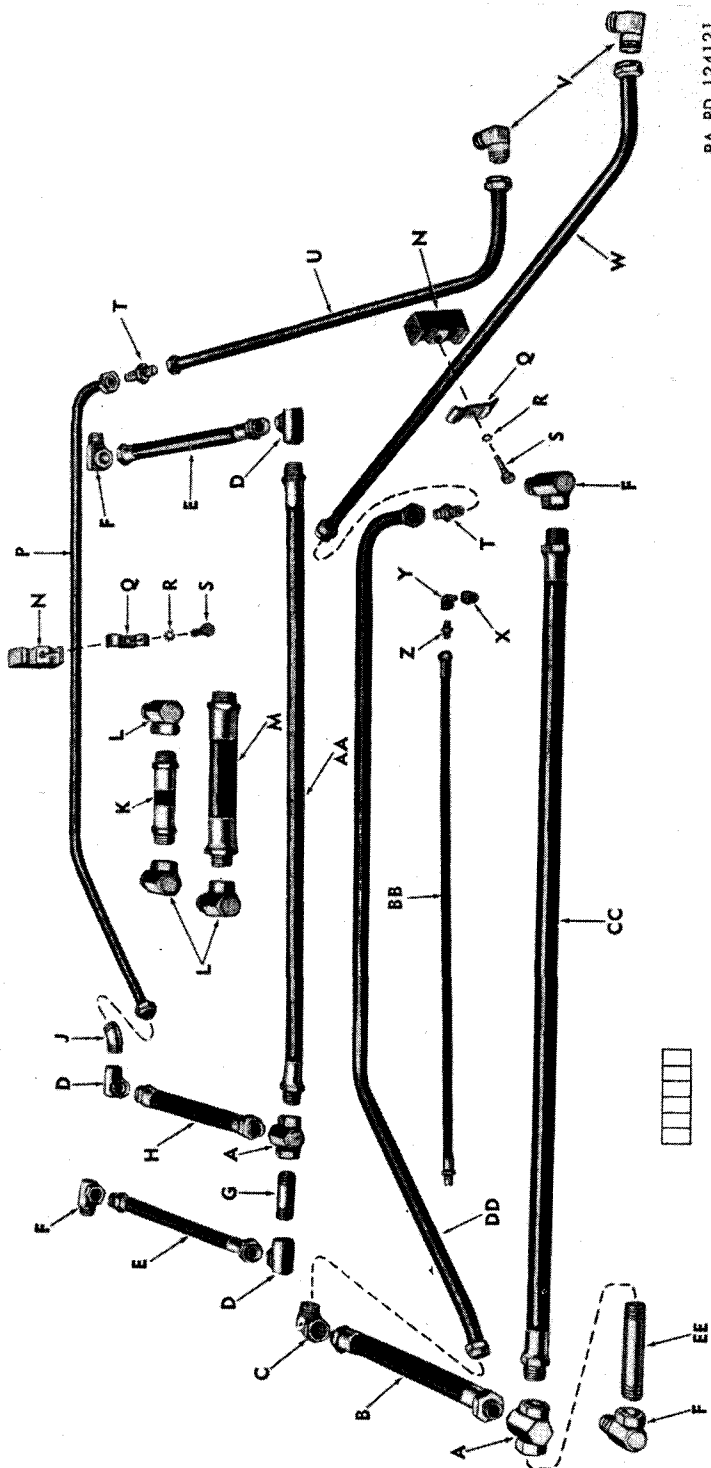

Figure 52. Arrangement of hydraulic lines and fittings.
- (1) Install the hydraulic-cylinder-upper-end rubber hose (fig. 13), and the elbow adapter union in the hydraulic cylinder by turning the union into the threaded bore near the top of the cylinder. Position the union so that the hose points straight toward the bottom of the cylinder. Install the elbow adapter union (fig. 52) in the threaded bore at the bottom of the cylinder. Position the union to point toward the center line of the vehicle when the cylinder is installed.
- (5) Connect the hydraulic-cylinder-upper-end rubber hose to the upper-end-right-hydraulic-cylinder-to-upper-end-left hydraulic-cylinder rubber hose (fig. 13), making the connection at the elbow adapter union which connects these two hoses (fig. 52).
Note. The right-hydraulic-cylinder fittings are not actually connected to the hoses named in steps (5) and (6); there is a nipple and a tee adapter union (fig. 52) in each hydraulic line between the horizontal hoses and the right-hydraulic-cylinder fittings.